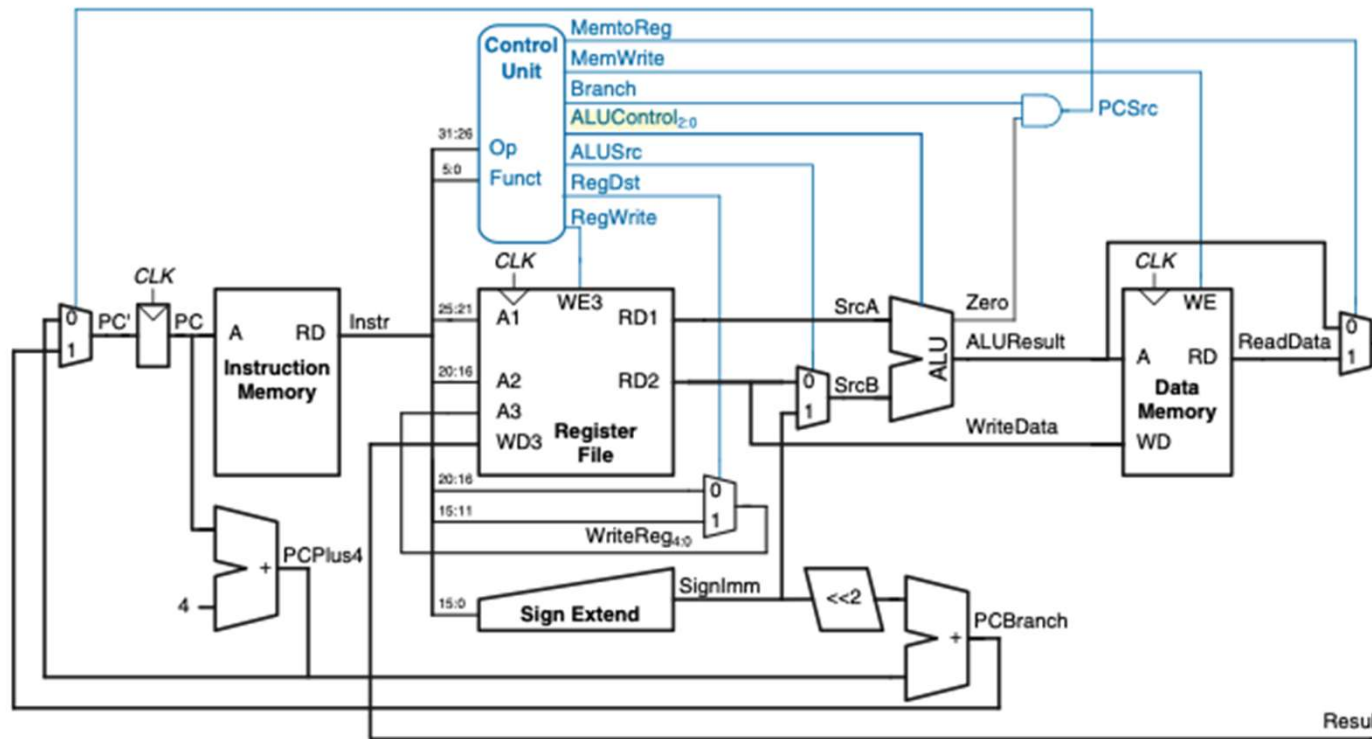
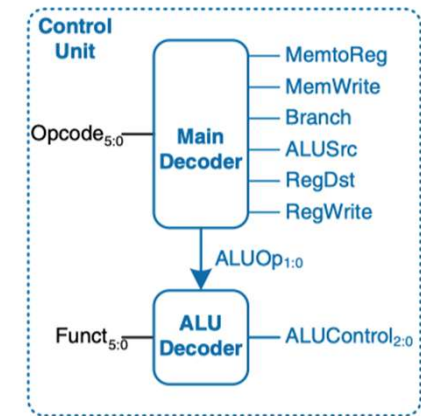

Figure 1: Current Datapath
Figure 2: Control Unit Internal Structure
- (1) Mark up a copy of Figure 1 and Figure 2 to indicate the changes to the datapath, and name any new control signals.
- (2) Mark up a copy of Table 1 and Table 2 to show the changes.
- (3) Describe any other changes that are required.